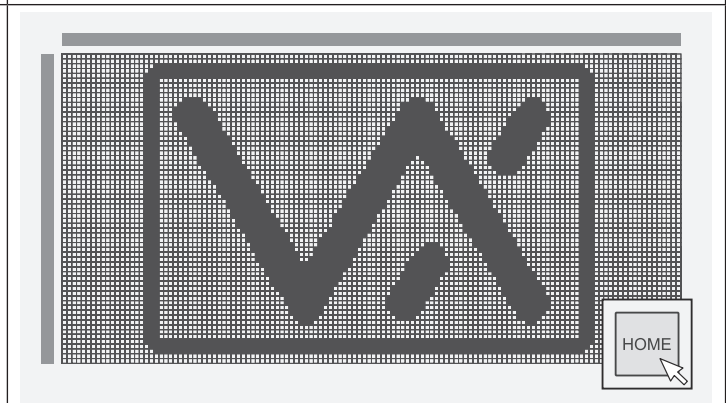

Fig. 93
5. Next click on the home screen icon to switch back to the imported image/logo from step 1, as shown in **Fig.93**.